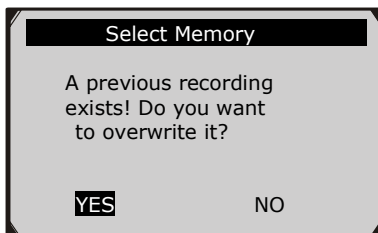

Figure 5.23
- If you select a location marked with an asterisk (\*) icon, a message prompting to overwrite old recording is displayed.( Figure 5.23)